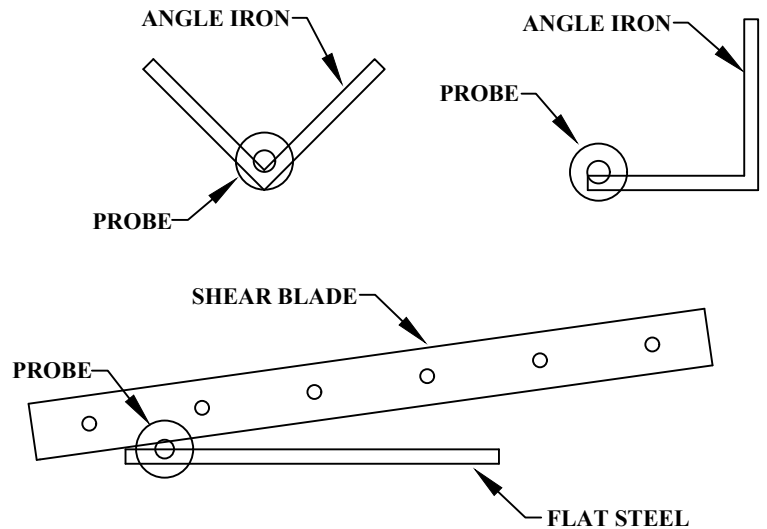

FIGURE 31
1. First, mount the main tube, Item (7), to the machine, using the bolts provided.
3. Slide the balance of the assembly on the main tube (7) so that the slide block (6) is as close to the machine's frame as possible and lined up with the plate shear on your model. Lock the slide in place.
4. Once the slide block (6) is tightened to the main tube, loosen the set screw (4) and slide the probe in as close the bottom shear blade as possible.
5. On some models, the probe will reach the lower shear blade. On these models, lock the set screw (4) with the probe against the shear blade and install the scale (8) on the main tube with 0 inches aligned with the slide block (6).
6. On models where the probe does not reach the lower shear blade, set the probe at a set distance away from the lower blade such as 1 or 2 inches (25 or 51mm). If the probe is 1 inch (25mm) from the lower blade install the scale with the 1 inch (25mm) mark aligned with the slide block (6).
7. When you move the probe to another station, you will have to re-calibrate the stop by moving the slide block (6) in to the preset point on your scale and loosening the set screw (4) and adjusting the probe accordingly.
8. The other important thing is to set the probe where it contacts the material you are going to cut. FIGURE 31 on the next page shows the recommended placement of the probe in relation to the material being cut. . If the probe is not properly set, the material can move the probe and cause changes in the length of your parts.